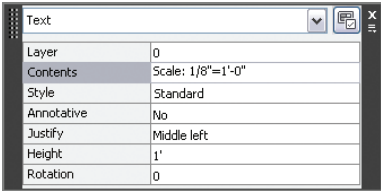

FIGURE 10.14 Editing text content and justification using Quick Properties
3. Toggle on Quick Properties on the status bar, and select the 3 under the text Drawing Title. In the Quick Properties window that appears, change Justify to Middle Left and type **Scale: 1/8" = 1'-0"** (or **Scale: 1:20**) in the Contents text box (see Figure 10.14).